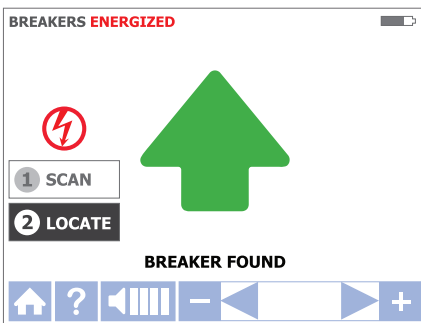

Figure 3.4e
- Rescan all breakers/fuses until solid green arrow and audible alert (continuous beep) indicates that the correct breaker/fuse was found. (See figure 3.4e)